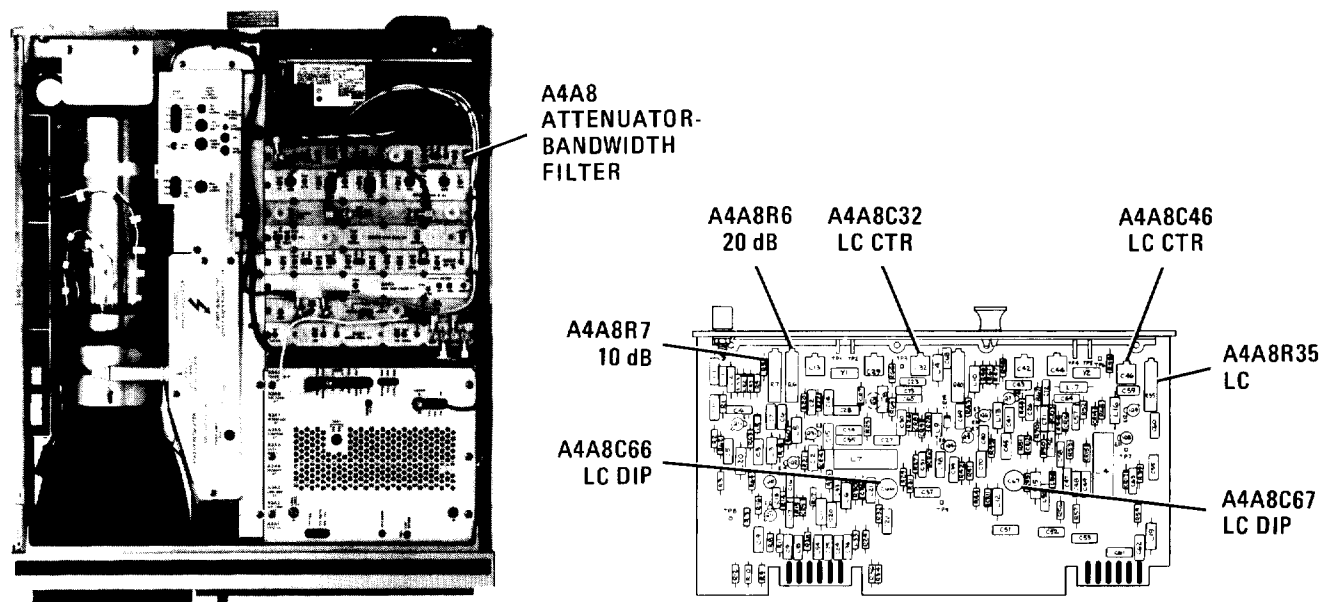

FIGURE 29. LOCATION OF A4A8 21.4 MHz LC FILTER AND ATTENUATION ADJUSTMENTS
31. Adjust A4A8C32 LC CTR and A4A8C46 LC CTR for maximum MARKER level as indicated by CRT annotation. Refer to Figure 29 for location of adjustments. If unable to adjust A4A8C32 and A4A8C46 LC CTR adjustments for satisfactory signal amplitude, increase or decrease value of A4A8C35 and A4A8C49. Refer to Table 3 for range of values.
35. Adjust A4A8R35 LC to align markers on display. MARKER  level should indicate 1.00 X. Refer to Figure 29 for location of adjustment.
63. Adjust A4A8C66 LC DIP for minimum amplitude of signal peak. Refer to Figure 29 for location of adjustment. If unable to achieve a “dip” in signal amplitude, increase or decrease value of A4A8R30. Refer to Table 3 for range of values.
65. Adjust A4A8C67 LC DIP for minimum amplitude of signal peak. Refer to Figure 29 for location of adjustment. If unable to achieve a “dip” in signal amplitude, increase or decrease value of A4A8R55. Refer to Table 3 for range of values.
74. Adjust A4A8R7 A10dB to align markers on display. MARKER Δ level should indicate 0.00 dB. Refer to Figure 29 for location of adjustment.
76. Adjust A4A8R6 A20dB to align markers on display. MARKER Δ level should indicate 0.00 dB. Refer to Figure 29 for location of adjustment.